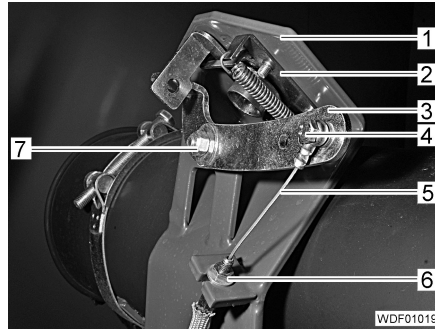

Fig. 459 Locking mechanism of engine hood
- Unscrew the screw (Fig. 459,4).
- Loosen the nut (Fig. 459,6) and pull the Bowden cable forwards out of the mount (Fig. 459,1).